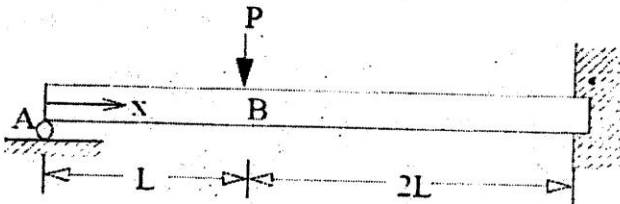

Figure-2
2. Using Castigliano's theorem, find the reaction force at A and deflection at B in terms of  $P$ ,  $E$ ,  $I$  and  $L$  for the beam shown in figure-2.